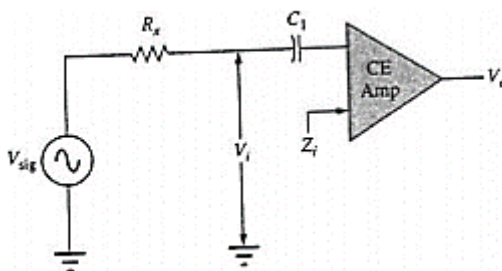

Figure 6: Circuit for determining input impedance
- To determine the input impedance of this amplifier, connect an input measurement resistor, $R_x=1k\Omega$, as shown in Figure 6. Apply the same input signal (50mVpk at 1 kHz) but this time through this known resistance. Measure V_i i.e., the signal after this resistor R_x . Note down in Table 3.